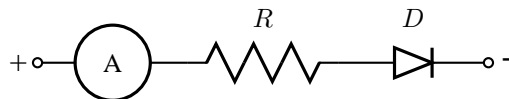
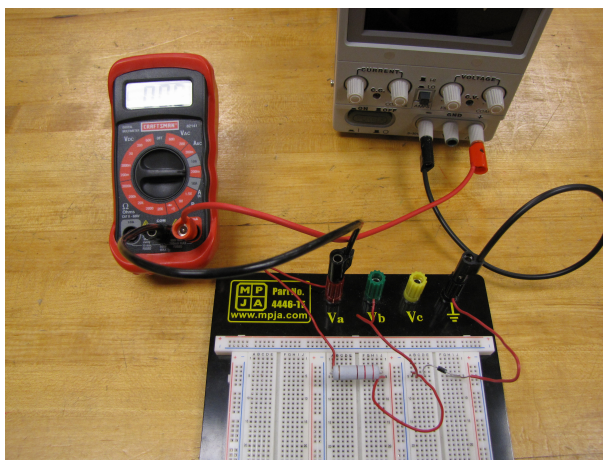

Figure 2: A schematic of the circuit comprising an ammeter, set for 200 mA maximum, a resistor, and a diode, all connected in series.
Figure 3: The circuit corresponding to the schematic in in Fig. 2 assembled on the breadboard.
2. On the breadboard assemble the circuit whose schematic is shown in Fig. 2. The ammeter, the resistor, and diode are connected in series.¹ Connect the circuit to the power supply. The circuit as assembled is shown in Fig. 3.